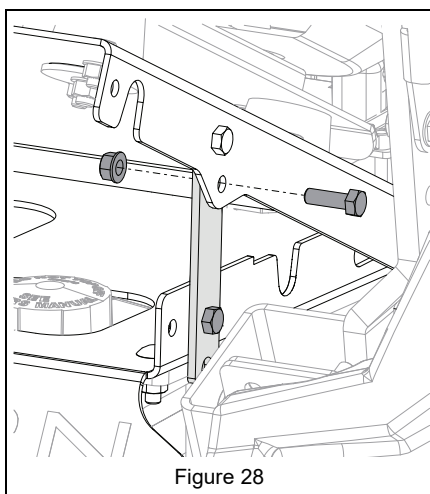

Figure 28
6. Secure seat bracket to seat plate using hardware removed in step 4. Repeat on opposite side of unit. See Figure 28.